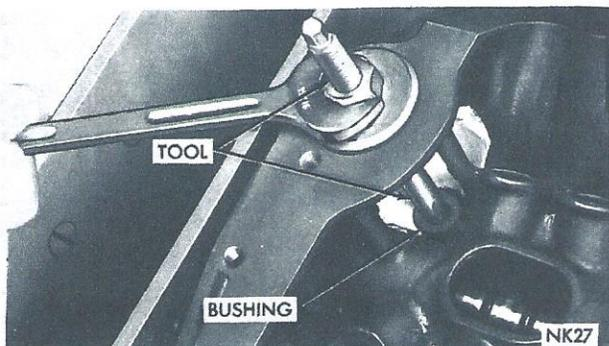

Fig. 34—Removing Distributor Drive Shaft Bushing
- (1) Insert Tool C-3052 into old bushing and thread down until a tight fit is obtained, (Fig. 34).
- (2) Hold puller screw and tighten puller nut until bushing is removed.